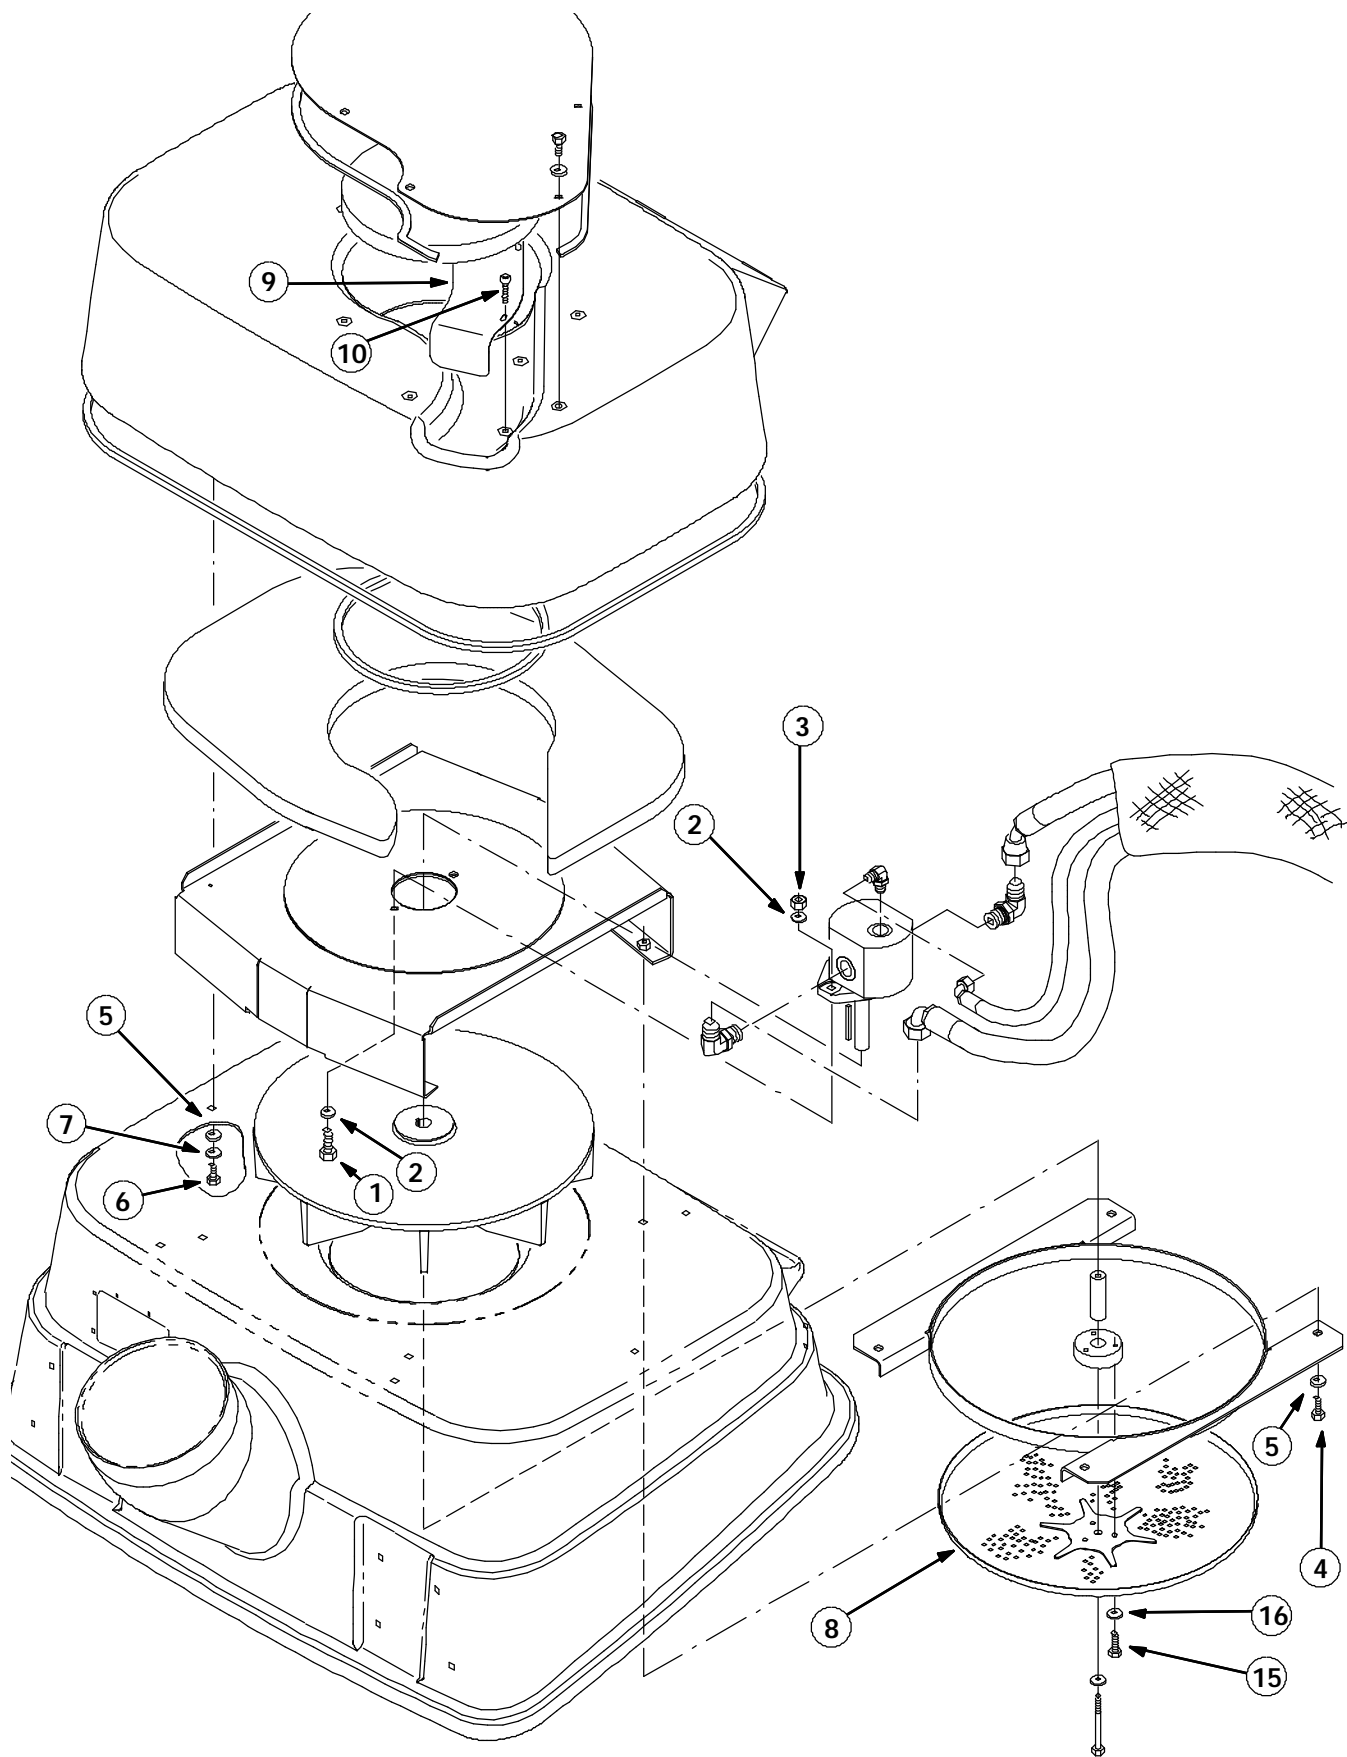

FIG. 1 VACUUM SCREEN ASSEMBLY INSTALLATION
(Refer to FIG. 1 thru 4)
11. The vacuum fan motor can now be moved to a position to access the motor mounting hardware. Remove and discard existing fan motor mounting hardware, and replace with new bolts (4), washers (2), and nyloc nuts (3). One washer should be under the head of each bolt. Torque bolts to 45-50 ft-lb. (Refer to FIG. 1)
12. Using hose shield (9) as template, lay shield in housing groove and mark hole mounting positions. (Refer to FIG. 1)
13. Drill three .094in. holes in marked positions. Mount hose shield (9) with three screws (10). (Refer to FIG. 1)
17. Install new fan screen (8) with M8 bolt, sleeve and spacer removed in step 16, three hex bolts (15) and three washers (16). Use Locktite 242 on center bolt only (Refer to FIG. 1)
18. Secure fan housing with six bolts (6), six hard washers (5), and six fender washers (7) using Locktite 242. Torque bolts to 14-18 ft-lb. (Refer to FIG. 1)
19. Install old fan mount plate/screen guard with four bolts (4) and washers (5) using Locktite 242. Torque bolts to 14-18 ft-lb. (Refer to FIG. 1)